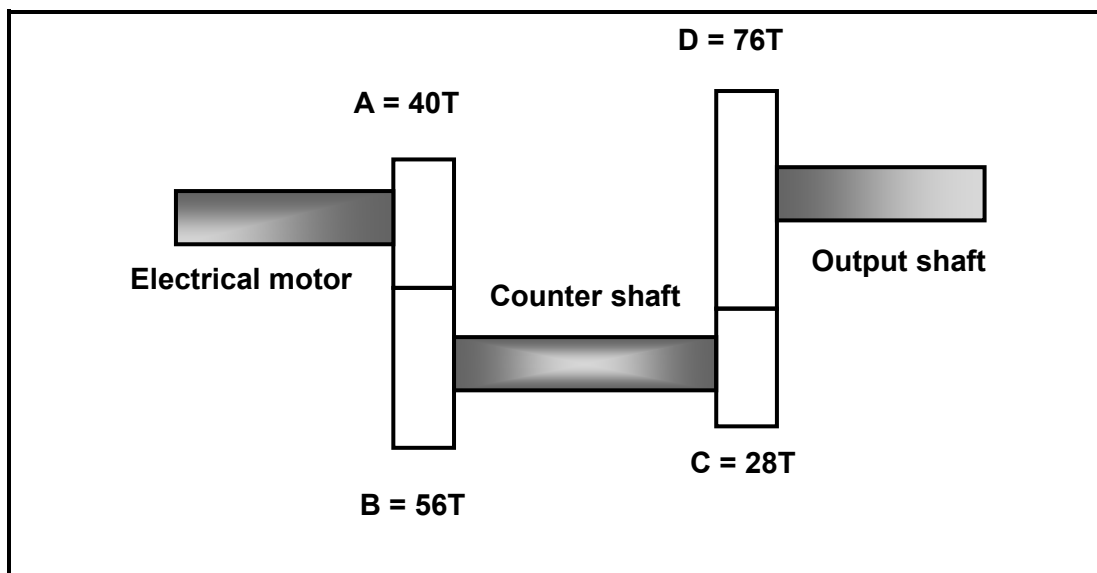

FIGURE 9.1
- 9.1 FIGURE 9.1 shows a gear drive system on the shaft of an electric motor. Driver gear A has 40 teeth and meshes with a gear B (56 teeth) on a counter shaft. On this counter shaft is another driver gear, C (28 teeth), that meshes with a gear D (76 teeth) on the output shaft.